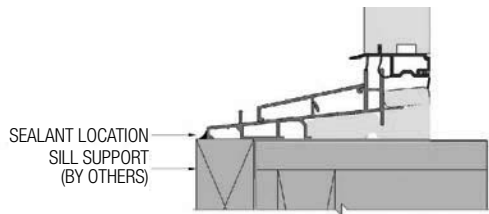

FIG. 14: STANDARD DOOR SILL
- A) Attach a sill support block beneath the sill. Apply a bead of sealant at the nose of the sill and support block. Continue the bead of sealant around the bottom edge of the brickmould to the rough opening. (Fig. 14 & 15)